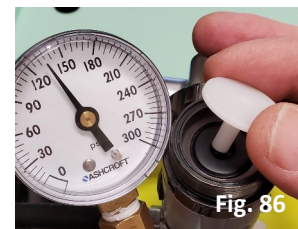

Fig. 86
2. Drop the Transpiston (#37) into the 6mm hex broach (Fig. 86).